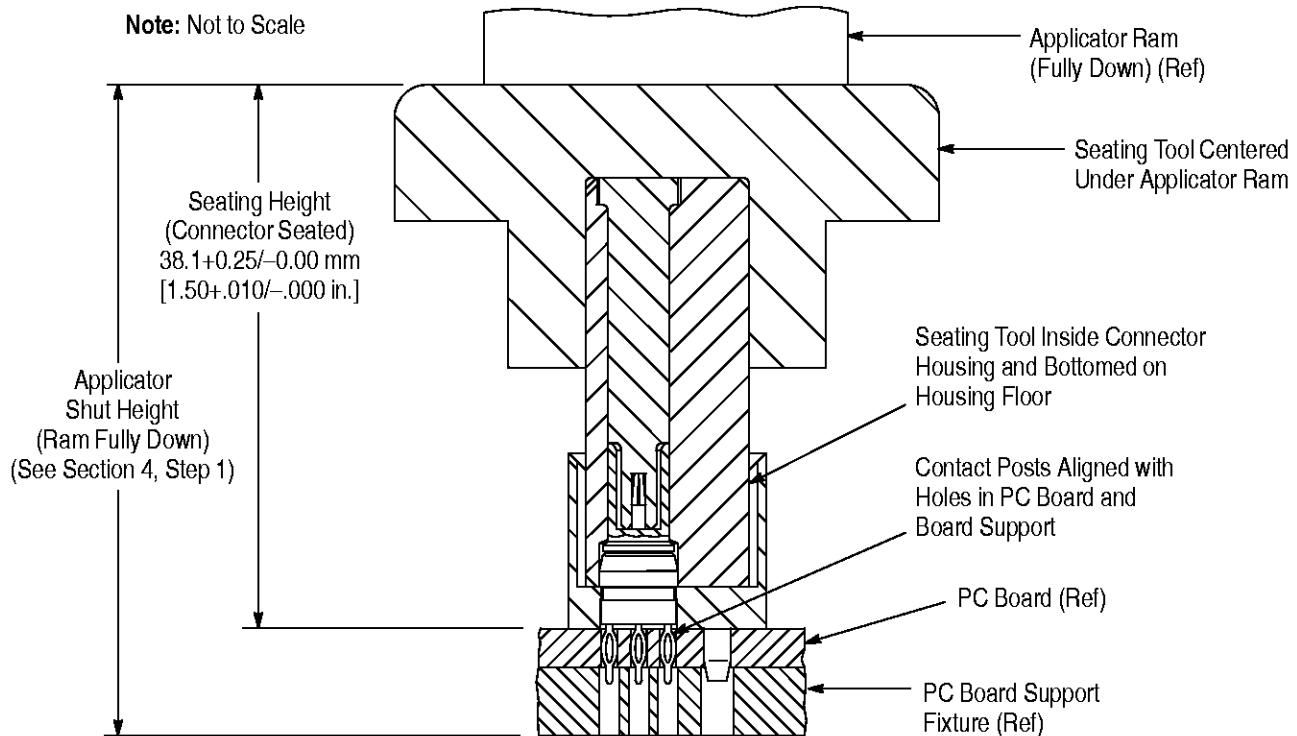

Figure 2
1. Set seating height to the dimension shown in Figure 2 (applicator *shut height* will equal the seating height PLUS the combined thicknesses of the pc board and pc board support).
6. Cycle applicator ram according to instructions for the power source. Check assembly for proper seating using the requirements in Figure 2.